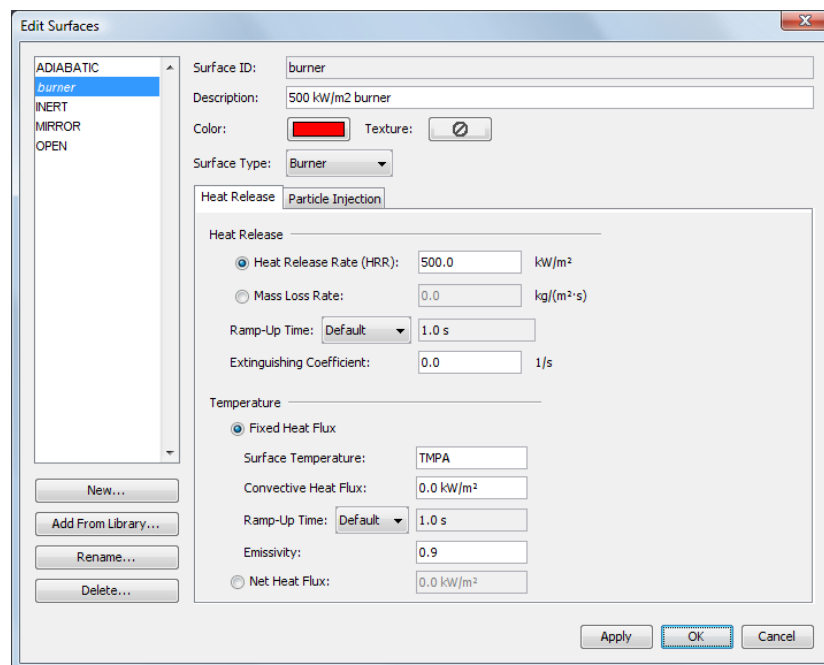

Figure 3.4. Defining parameters for the burner surface
1. In the **Description** box, type 500 kW/m² burner, Figure 3.4